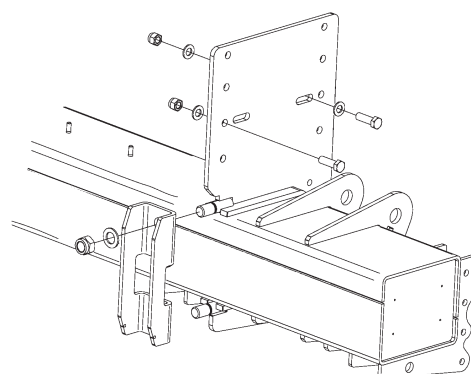

Figure 21. Install the U-profile with associated washers and nuts
8. Install the U-profile with associated washers and nuts, but do not tighten them. Screw the nuts on alternately until the U-profile is flat against the body, see Figure 21